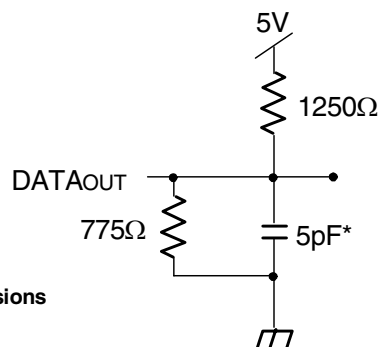

Figure 2. Output Test Load
1. Transition is measured 0mV from Low or High-impedance voltage Output Test Load (Figure 2).
1. Transition is measured 0mV from Low or High-impedance voltage with Output Test Load (Figure 2). This parameter is guaranteed by device characterization but is not production tested.